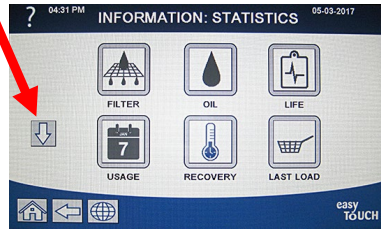

Figure 16
4. Press the down arrow button (see Figure 16).